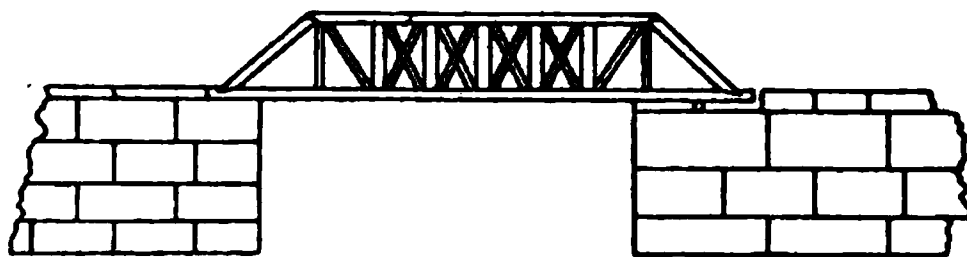

FIG. 128.—Truss bridge showing roller support at one end.
b. One end of a steel truss bridge is usually supported on rollers so that it can expand and contract with changing temperatures. (See Fig. 128.)